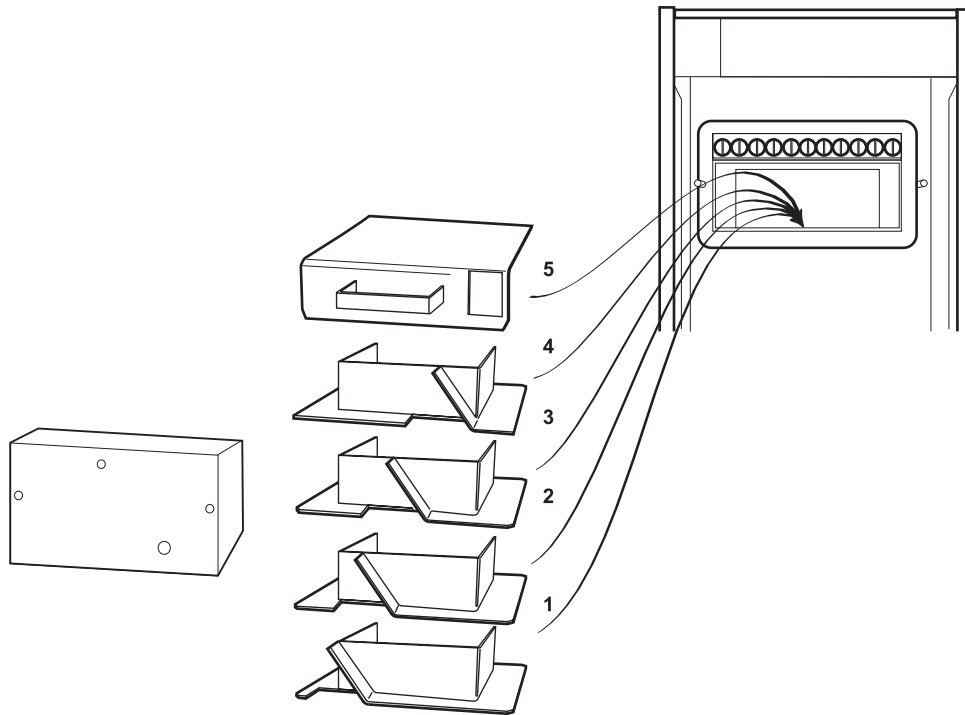

Fig. 19 - 50/70, 70/90 baffles
- 2 Remove the baffles as shown in Fig. 19 or 20.
- 6 Replace the baffles, ensuring they are correctly fitted. See Fig. 19 or 20.